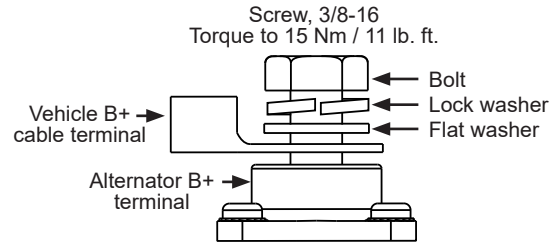

Figure 4: B+ Terminal Hardware Stacking Order
- Connect vehicle B+ cable to alternator B+ terminal (see Figure 3 for terminal location). Install hardware on B+ terminal in stacking order shown in Figure 4. Torque to 15 Nm / 11 lb. ft..